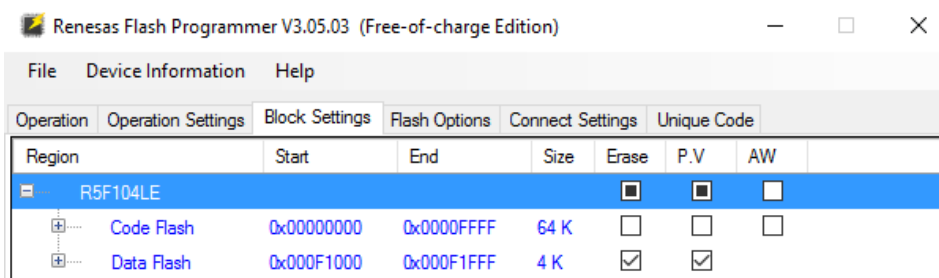

Figure 12. Memory Block Setting User/Factory Page Update
2. Enable flashing only in the data flash section as shown in Figure 12.